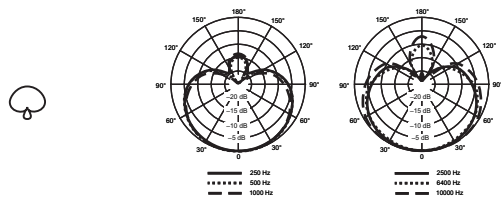

FIGURE 5. TYPICAL SUPERCARDIOID POLAR PATTERN
**Supercardioid.** The narrower pattern provides greater rejection of off-axis sound and maximum gain before feedback. The supercardioid pattern is ideal for use in loud environments or applications in which sound sources are very close to each other. See Figure 5.